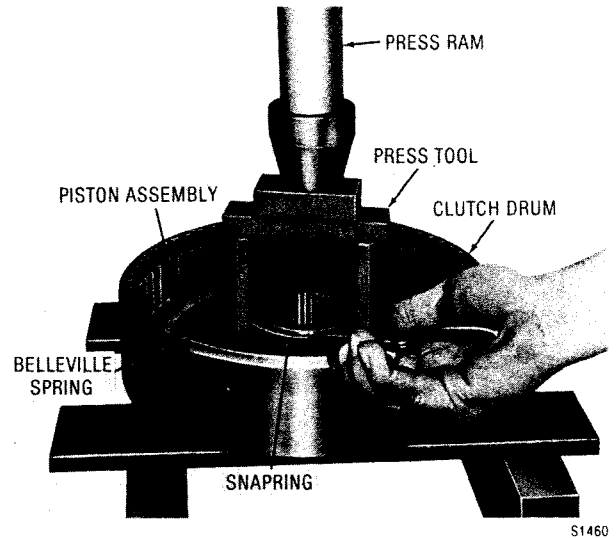

Fig. 6-18. Removing (or installing) piston return spring (typical configuration)
(1) Speedometer drive models, high-range. Remove sealrings 27 and 29 (foldout 11,B), and drive pin 25 from the hub of high-range clutch piston housing 24. Remove speedometer drive shaft 26 and bearing 28 from the high-range clutch piston housing.
(2) If present, remove the bearing from the housing.
(3) Position the piston and housing, piston side up, in a press. Use care to prevent damage to the assembly. Depress the belleville spring and remove the snapping (fig. 6-18).
(4) Remove the piston and sealring (and expander, if present) from the piston housing. Refer to paragraph 6-12 for clutch piston rebuild instructions.
(5) Remove the hook-type sealring from the inner hub of the housing.
(6) Remove the bushing and sleeve from the piston housing only if replacement is necessary.
sembled parts, piston side upward, in a press. Depress the spring and install the snapping (fig. 6-18).